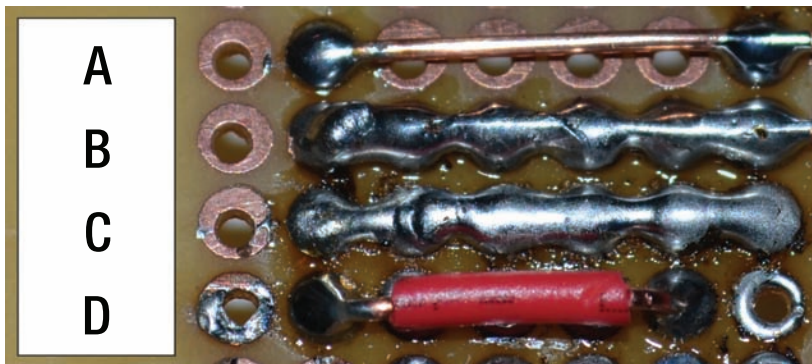

Figure 1-27. How to create traces using copper wire
- *Option 2—Wire traces:* You can alternatively use a piece of solid bare copper wire (16-20awg), placed directly on the copper pads that you would like to connect (see A, B, and D in Figure 1-27). If the connection will span several pads, it is desirable to apply a small amount of solder to each pad that the wire touches to ensure that it will not move after the circuit is complete. You can also bend the wire around other components to make a curved or angled line. This method yields results similar to a homemade PCB trace. Because each wire is connected directly from one lead to another, there can be no crossing wires from other components on the underside of the PCB. This method is acceptable for higher-current applications, though an appropriate wire gauge should be used for the amount of current to be transferred.